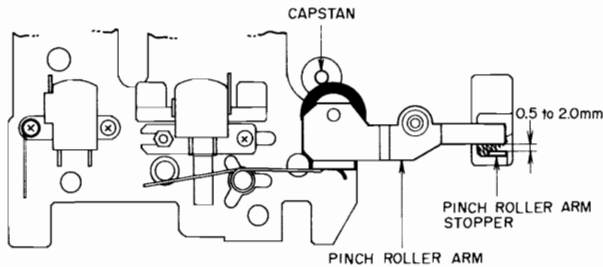

Fig. 12 Gap between pinch roller arm and stopper
3. ADJUSTMENT OF GAP BETWEEN THE PINCH ROLLER ARM AND STOPPER (Refer to Fig. 12)